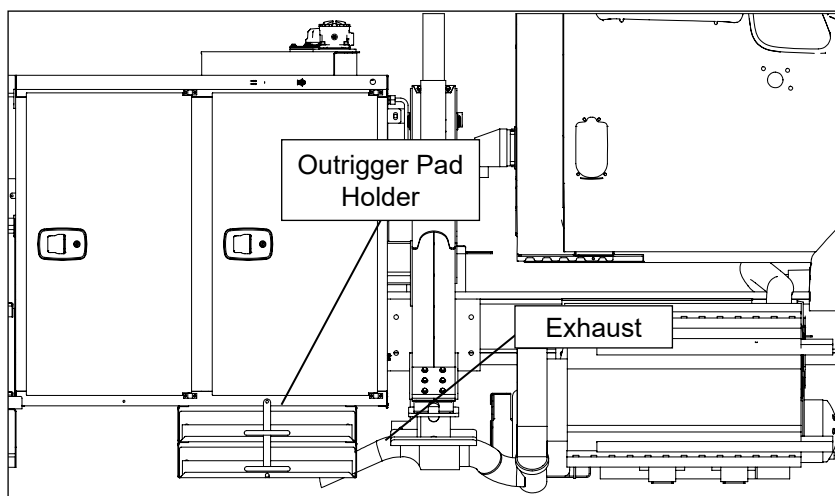

Figure 1 — Style 1
3. Locate the outrigger pad holder on the curbside of the unit under the first vertical body compartment near the exhaust tip (refer to Figure 1).